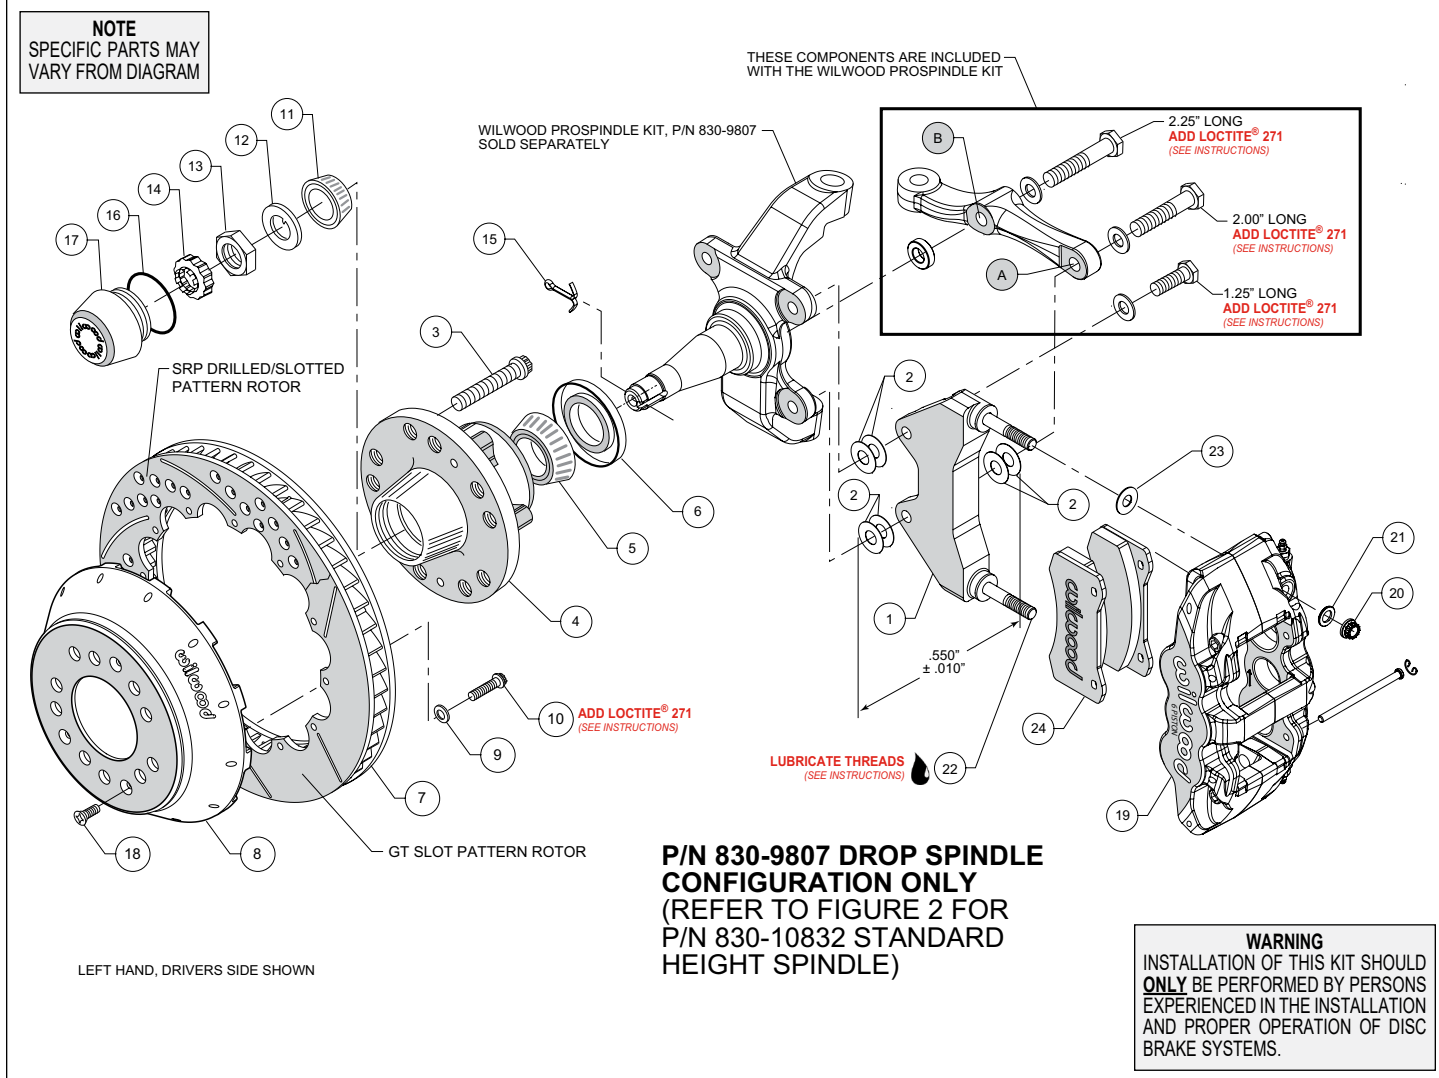
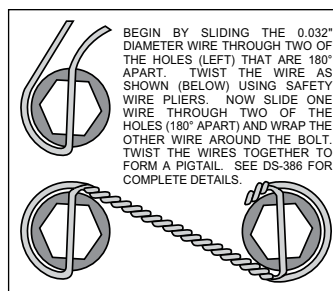

Figure 1. Installation Configuration For Drop Spindle, P/N 830-9807
Figure 4. Safety Wire Diagram
Assembly Instructions (numbers in parenthesis refer to the parts list and Figures 1 and 2 on the preceding pages):
- NOTE:** Each Wilwood ProSpindle kit includes bolts, washers, and a spacer to mount the steering arm and caliper bracket. The various bolts are identified by length in the following instructions and in Figures 1 and 2.
- Orient the bracket as shown in Figure 1 and Photo 1. Install at top spindle hole using 1.25" long bolt and .06" thick washer (from ProSpindle kit), and two .016" thick shims (2) between the bracket and spindle, Figure 1.
- Orient the steering arm, and identify the hole marked 'A', as shown in Figure 1. Install at bottom spindle hole using 2.00" long bolt, .06" thick washer (from ProSpindle kit), two .016" thick shims (2) between the steering arm and the bracket, and another two .016" thick shims (2) between the bracket and spindle, Figure 1. The bracket is located between the steering arm and spindle. **NOTE:** *The bracket and shim washers must add up to a total thickness of .550" ± .010", Figure 1.*
- Finish attaching the steering arm through the hole marked 'B', as shown in Figure 1. Install using 2.25" long bolt, .06" thick washer, and .25" thick spacer (all from ProSpindle kit), Figure 1.
- Pack the large inner bearing cone (5) with high temperature disc brake bearing grease (available from your local auto parts store) and install into the backside of the hub (4), Photo 4.
- Install the grease seal (6) by pressing into the backside of the hub (4), flush with the end of the hub, Photo 4.
- Pack the small outer bearing cone (11) with high temperature disc brake bearing grease and install into front of hub (4). Slide the hub assembly onto the spindle. Secure using spindle washer (12) and adjusting nut (13), Photo 5. Bearing adjustment: Tighten the nut while turning the hub. When there is a slight bind on the bearings, they are seated correctly. Back the nut off about 1/6 to 1/4 of a turn, or sufficiently to allow .001" to .007" end play. **WARNING:** Failure to back off adjusting nut could cause bearing to run hot and be damaged, which could cause the wheel to lock or come off. Install spindle nut retainer (14) and cotter pin (15).
- Screw dust cap (17) into hub (4). Friction created by the o-ring (16) on the dust cap keeps it from unscrewing.
- Orient the rotor (7) and the hat (8) as shown in Figures 1 or 2, and Photo 6. Attach rotor to hat using bolts (10) and washers (9). Apply red *Loctite*® 271 to the bolt threads and torque to 155 **in-lb** using a criss-cross pattern. For an added measure of security, the bolts may be safety wired using standard 0.032 inch diameter stainless steel safety wire as shown in Figure 4. Refer to Wilwood's data sheet DS-386 (available at www.wilwood.com/Pdf/DataSheets/ds386.pdf) for complete safety wire installation instructions.
- Slide the hat/rotor assembly (8 and 7) onto the hub (4) taking care to align the small countersunk holes in the hat with the small threaded holes in the hub. **NOTE:** The hat must fit flush against the hub face or excessive rotor run out may result. Install three flat head screws (18) through the small holes in the hat (8), and torque to 85 **in-lb**.
- NOTE:** This kit contains distinct right and left hand calipers that must be mounted in a specific direction, as described below. Lubricate the caliper mounting studs (22) with lightweight oil. Initially place one .030" thick shim (23) on each stud as shown in Figure 1 or 2, and Photo 7. Mount the caliper (19) onto the bracket (1) using lock nuts (20) and washers (21), Figure 1 or 2. Ensure that the caliper is mounted so the largest pistons are at the rotor exit end of the caliper, in relation to the direction of rotor rotation. Temporarily tighten the lock nuts. View the rotor through the top opening of the caliper. The rotor should be centered in the caliper, Photo 8. If not, proceed as follows:
- For the lower bracket mount bolt, if a shim was added between the bracket and spindle, then a shim must be removed between the steering arm and bracket, such that the total thickness of bracket and shims remain equal to $.550 \pm .010$ ", Figure 1.
- Adjust by adding or subtracting shims (2) between the bracket and the spindle. Always use the same amount of shims on each of the two mounting bolts.
- Remove the caliper (19), then remove the two pad retaining pins by carefully popping out the pin retaining clips and sliding out the pins. Insert the brake pads (24) into the caliper from the bottom, Figure 1 or 2, and Photo 9. With the friction material facing the rotor, secure the brake pads in place with the pad retaining pins and clips, Photo 10. Reinstall the caliper onto the caliper mounting bracket and temporarily tighten the lock nuts. Check that the top of the brake pad is flush with the outside diameter of the rotor, Photo 11. If not, adjust by adding or subtracting shims (23) between the caliper and the bracket. After the caliper pad height is set, torque the caliper lock nuts (20) to 47 ft-lb.